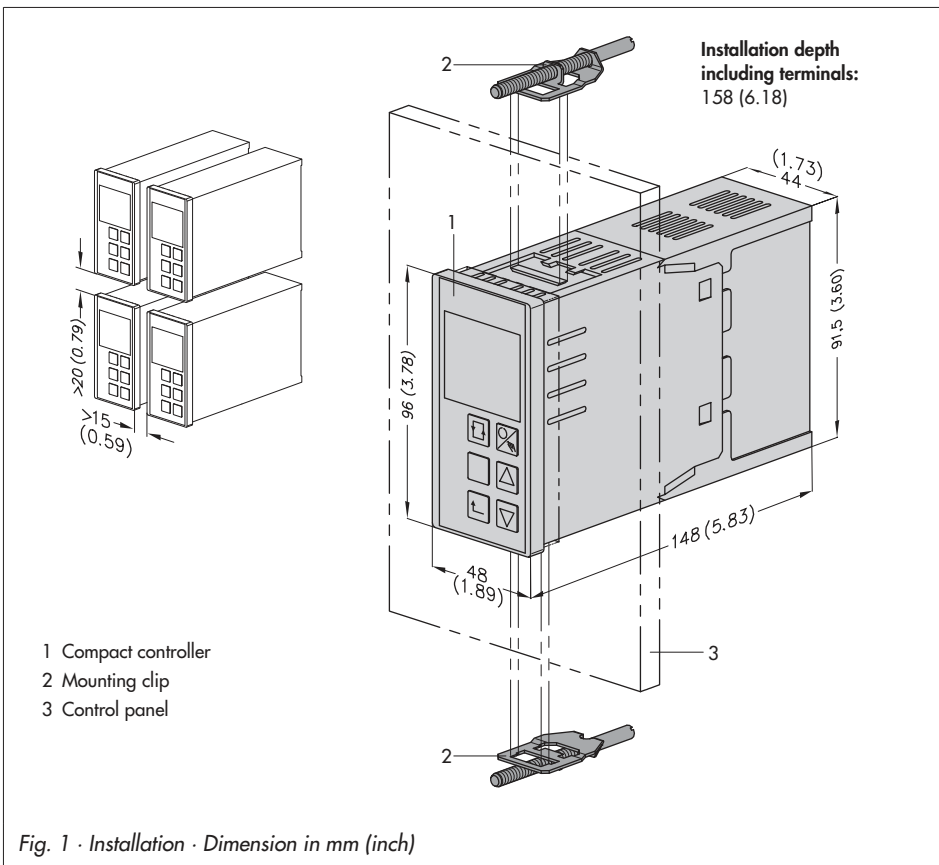

Fig. 1 · Installation · Dimension in mm (inch)
3. Insert supplied mounting clips (2) in the notches on the top and bottom (Fig. 1).